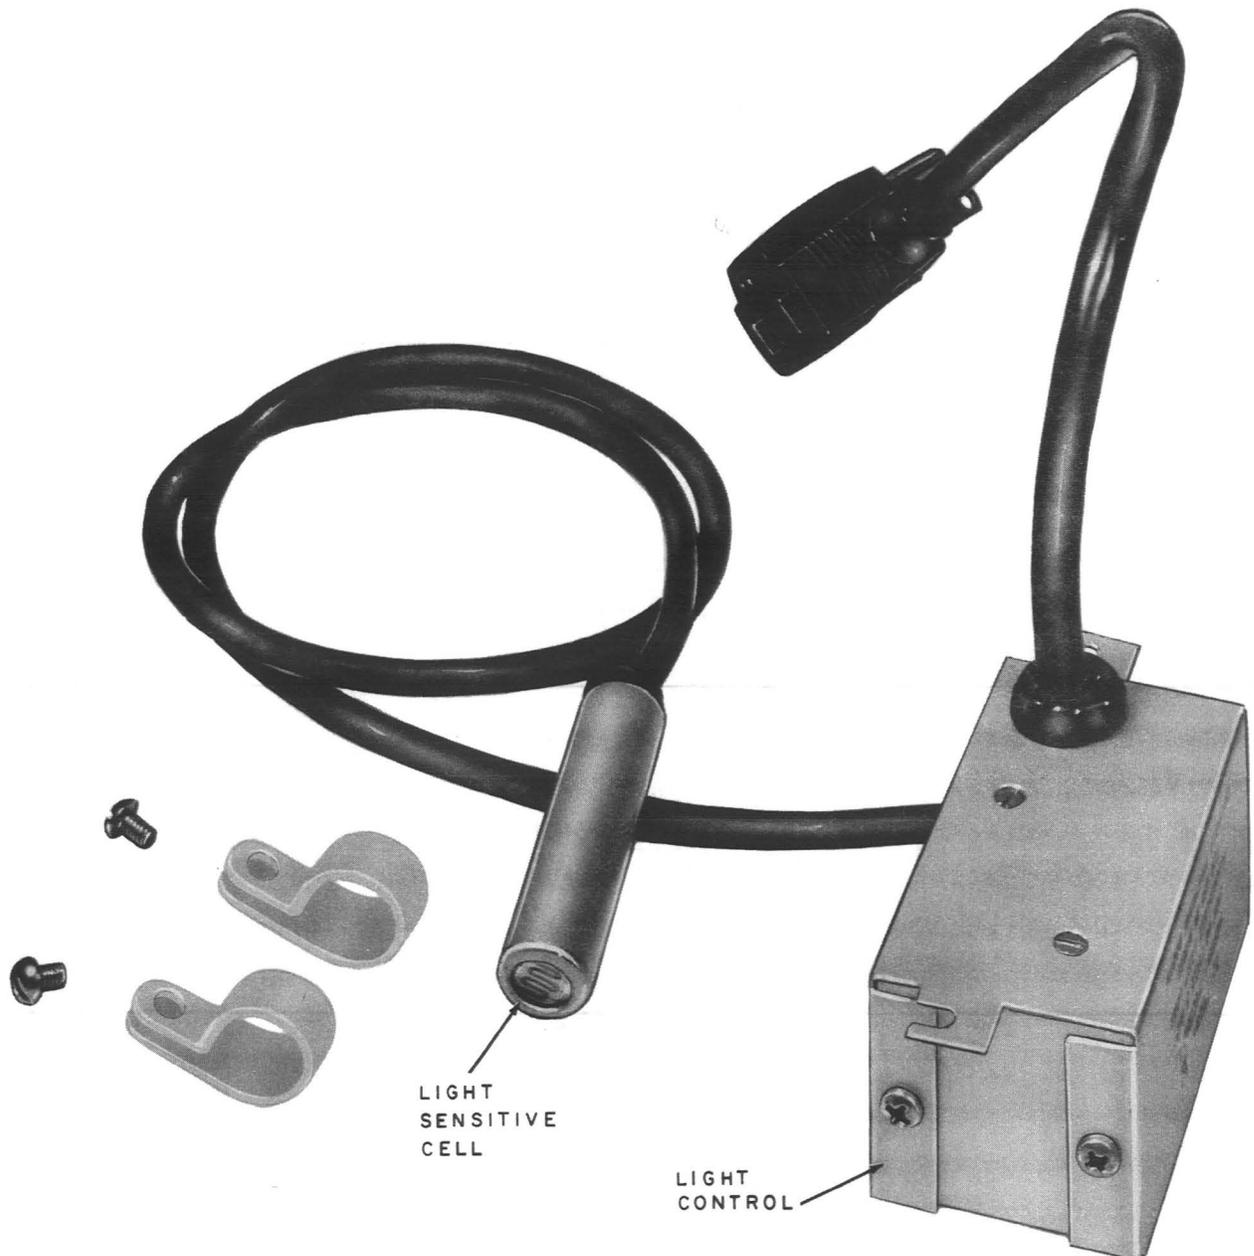

Fig. 22—KS-19261, List 4 Light Control Unit (Early Model)
**5.01** The List 4 unit (Fig. 22) is used in the KS-20842 SENTRY\* mounting which are not equipped with a knockout located above the front panel. It can be used for control of lights at single, back-to-back, or side-by-side installations.